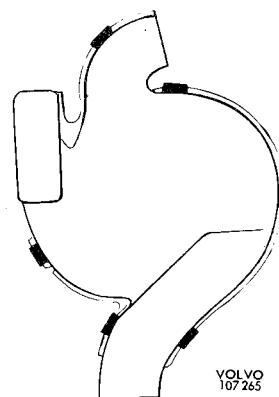

Fig. 8-71. Placing clamps for outer end
11. Fit the outer end and check at the same time that the heater control valve capillary tube with rubber grommet is properly fitted in the air duct. Concerning location of the clamps, see Fig. 8-71.
9. Fit the outer end. Concerning the location of the clamps, see Fig. 8-71.